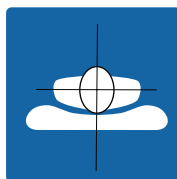

Figure 2: Center patient
5. Center the patient on the support surface (Figure 2 on page 12).